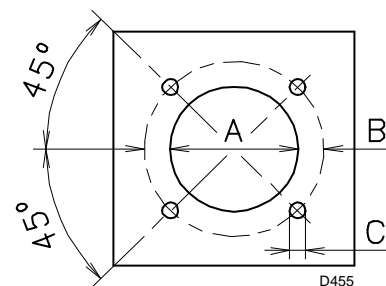

Fig. 11
Pierce the closing plate of the combustion chamber, as in Fig. 11. The position of the threaded holes can be marked using the thermal insulation screen supplied with the burner.
- Insert the entire burner on the boiler hole, previously fitted, as in Fig. 11, and fix it with the screws supplied.